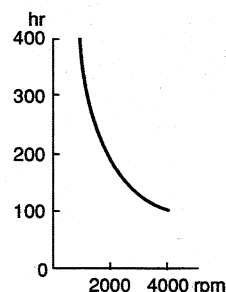

Fig.5 Silver carbon wear time conversion diagram
5.2 Abrasion of brush is proportional to revolution speed. Add up operating hours and check the fatigue life of the brush by referring to Fig. 5.